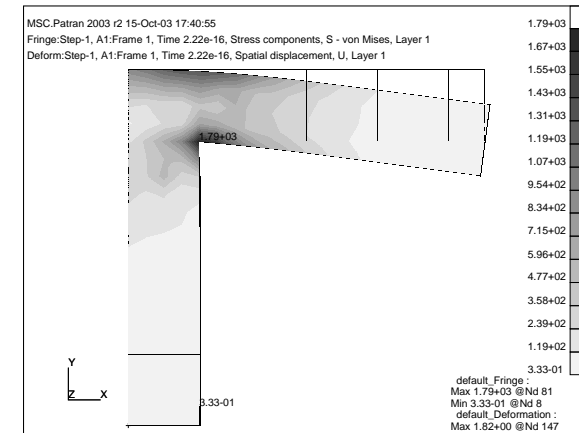

Figure 37: von Mises Stress Fringe Plot
The next step is to produce a fringe plot of Mises stress (see **Figure 37**). This is derived from the general stresses. The **Results** menu is already selected and up.
- Click on the Apply button. This should display the fringes on the deformed mesh plot. This is shown in **Figure 37**. If you require a fringe plot on the undeformed mesh plot then